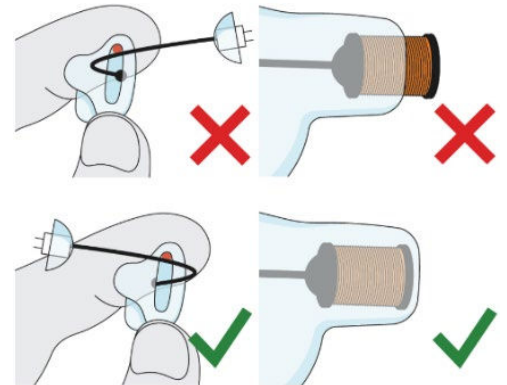

Figure 43: Incorrect and correct cable orientation (left panel) and coil positioning (right panel)
- d. Check to make sure that the cable curvature is oriented in the same direction as the positioning lip (Figure 43). If it is not, remove the cable, reorient, and repeat the insertion step.
- e. The transmitter coil must be within and should not protrude beyond the medial end of the shell (Figure 43). If the coil is over-inserted, pull the cable in the lateral direction to seat the cable into the coil pocket.
- f. Contact Earlens® Customer Care at 1-(844) 234-LENS (5367) or CustomerCare@earlens.com for additional cable sizes not included in the kit.
To replace the cover (Figure 43):